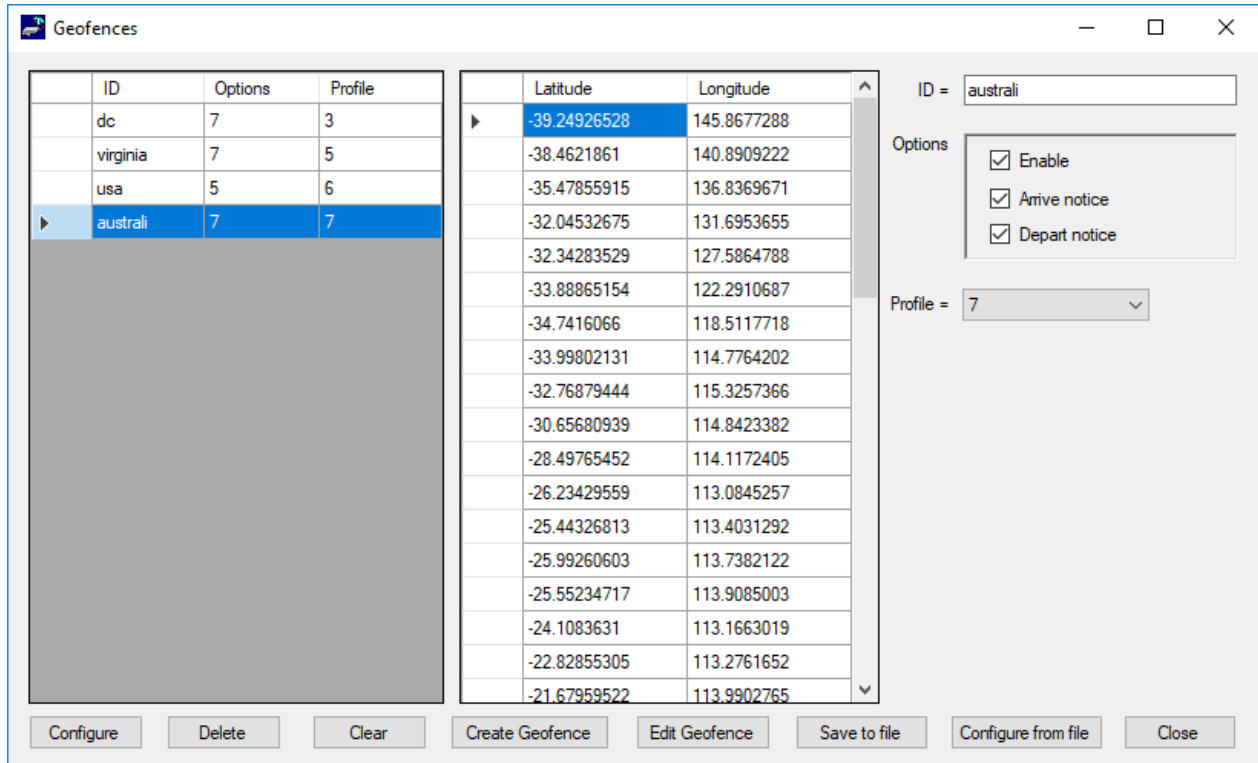

Figure 22: Geofences Window
A Geofence forms-based GUI configuration tool is available using SatTerm. To configure Geofences with SatTerm, select **Options > Geofences** (see **Figure 8**); the *Geofences* window shown in **Figure 22** appears. Note that the visual map-based Geofence options *Create Geofence* and *Edit Geofence* utilize Google Maps, so an internet connection is required for a map to appear.
13. **Edit Geofence:** Opens a window to edit the coordinates of the selected geofence. The window is the same as *Create Geofence* with the same functionality, but it opens prepopulated with coordinates, as shown in **Figure 22**.